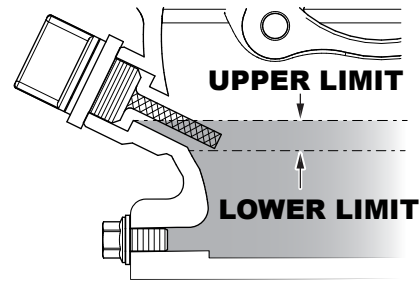

Figure 4. Engine Oil Level
4. If the oil level is low (Figure 4), fill to the edge of the oil filler hole with the recommended oil type (Table 5). Maximum oil capacity is 1.16 quarts (1.1 liters).